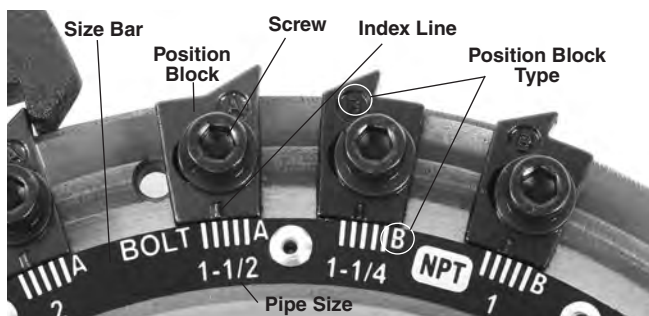

Figure 15 – Adjusting Thread Size
- 6 Always make sure position block type matches (Figure 15).